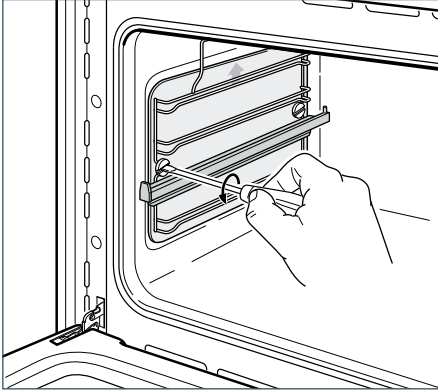

Fig.76 Removing the side racks and catalytic panels
The catalytic panels are covered with a special microporous enamel which absorbs and does away with oil and fat splashes during normal cooking over 200 °C. If, after cooking very fatty foods, the panels remain dirty, heat the oven on maximum for an hour to an hour and a half, and they will self-clean. The side panels are reversible. Make sure that you replace them with the arrow up, and on the correct side. To remove the side catalytic panels, you first need to unscrew the side racks. See Fig. 76.
- 1 Remove the side racks by unscrewing the fixing screws (Fig. 76).